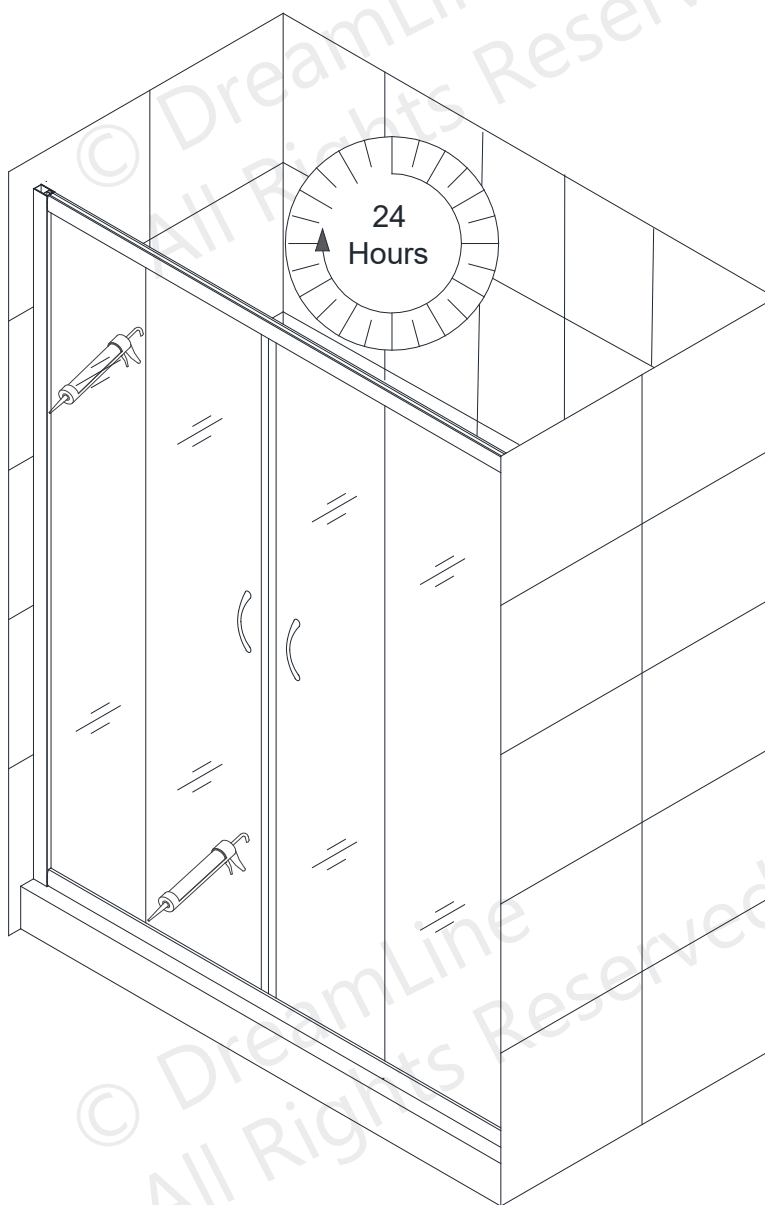

Fig 15
15. Apply a good quality mildew-resistant silicone along the interior perimeter of the wall profiles and bottom guide rail along the walls and threshold. **(Fig 15)**